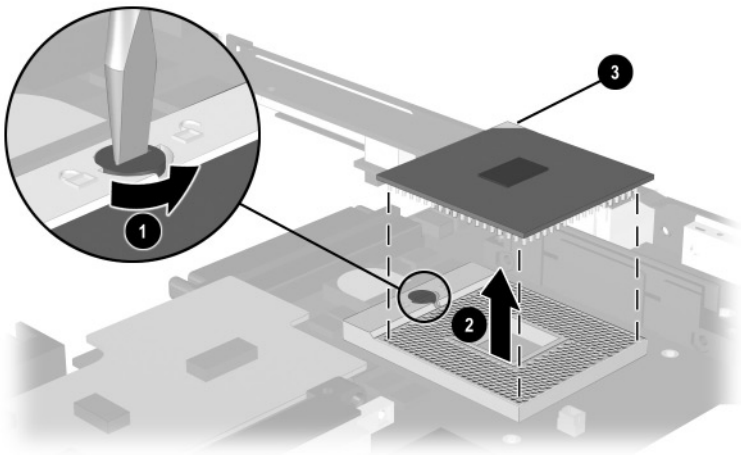

Figure 5-34. Removing the Processor
4. Turn the screwdriver counterclockwise ① to release the processor (Figure 5-34).
5. Remove the processor from the socket on the system board ②.